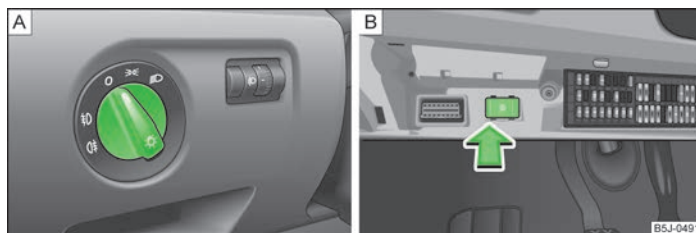

Fig. 21 Dash panel: Light switch/fuse box: Switch for daylight driving lights
On models fitted with **right-hand steering** the position of certain switches differs from that shown in » Fig. 21 on page 36. The symbols which mark the switch positions are identical, however.
- Turn the light switch » Fig. 21 - A to position  $\Rightarrow$ .
- Turn the light switch » Fig. 21 - A to position  $\mathbb{D}$ .
- Turn the light switch » Fig. 21 - A to position O.
- Turn the light switch into position 0 » [Fig. 21 on page 36 - \[A\]](#).
- Switch on the switch for daylight driving lights » [Fig. 21 on page 36 - \[B\]](#).
- Switch off the switch for daylight driving lights » [Fig. 21 on page 36 - \[B\]](#).
- Turn the light switch to the position Parking light  or Low beam  » [Fig. 21 on page 36 - \[A\]](#).